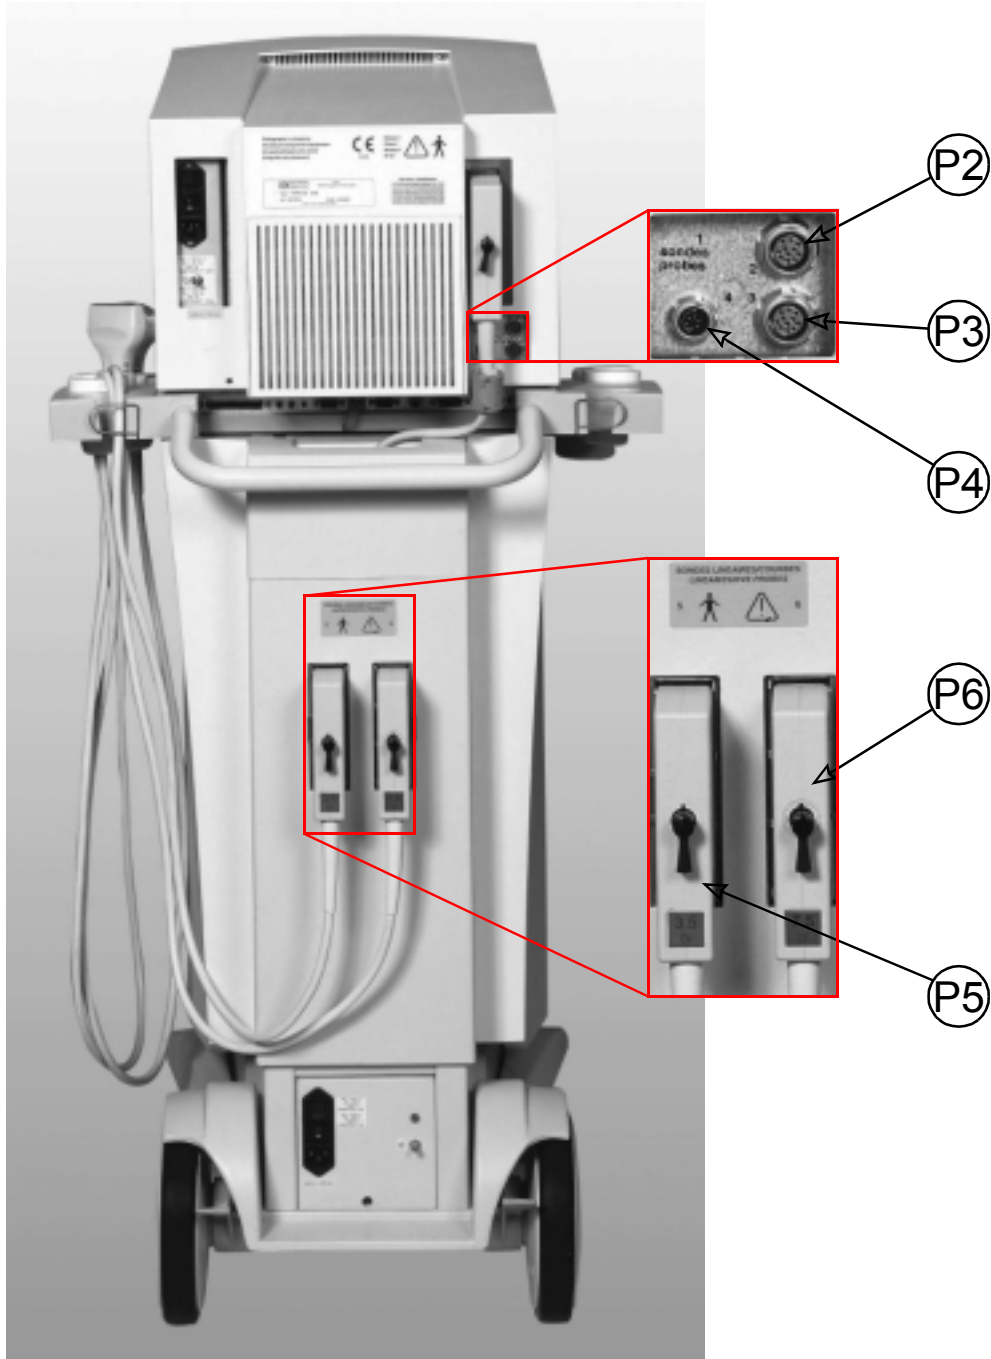

Figure 2-5: SIGMA 330 Expert/Excellence probe assignment
Both "P-2" and "P-3" ports, dedicated to Annular Sectorial probes (AS), the "P-4" port to Doppler pencil probes and the "P-5" and "P-6" ports to Linear/Convex probes, are assigned in the probe menu as shown in figure 2-5, "SIGMA 330 Expert/Excellence probe assignment", on page 2-12 and in Chapter 3.5.2.2, "Probe Main Menu, with Two Linear Probes", on page 3-12.